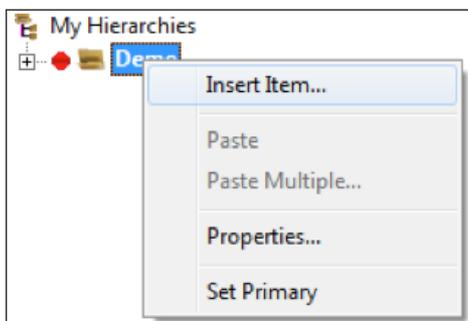

Figure 5. Select Insert Item from a machine.
- Right-click on a machine and choose **Insert Item (Figure 5)**.